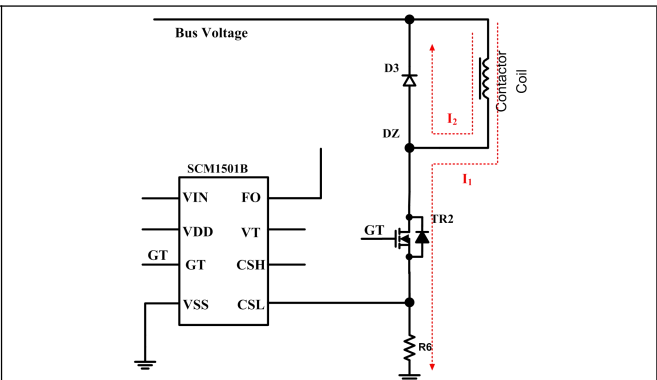

Fig. 7 Equivalent Circuits in the Pick-up and Holding Stages
(2) In Fig. 7, since the MOS transistor TR1 is turned on all time during normal operation, the main power circuit can be equivalent to the equivalent circuit of the Pick-up and Holding stages. When the MOS transistor TR1 is turned on, the contactor coil is excited, the coil current is increased, and the current path is, for example, I_1 ; when TR1 is turned off, the contactor coil is demagnetized by the diode D3, and the coil current is reduced. The chip detects the current of the contactor coil through the CSH and CSL pins, and adjusts the duty cycle in real time to adjust the coil current.